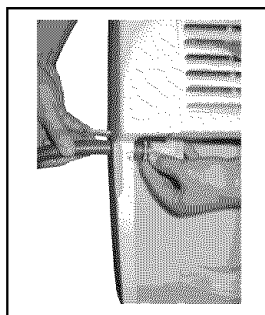

fig.3
- e. Screw the garden hose onto the threaded portion of the tray underneath the bucket opening. (fig.3)